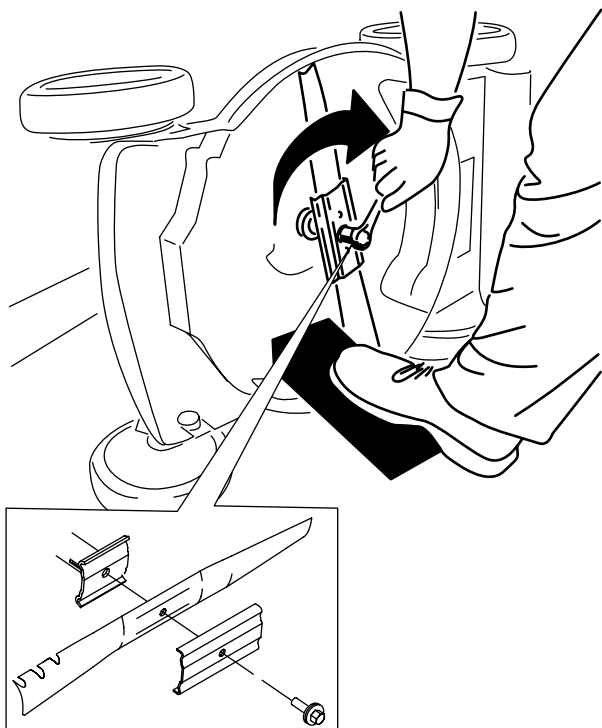

Figure 28
4. Install the new blade and all mounting hardware (Figure 28).